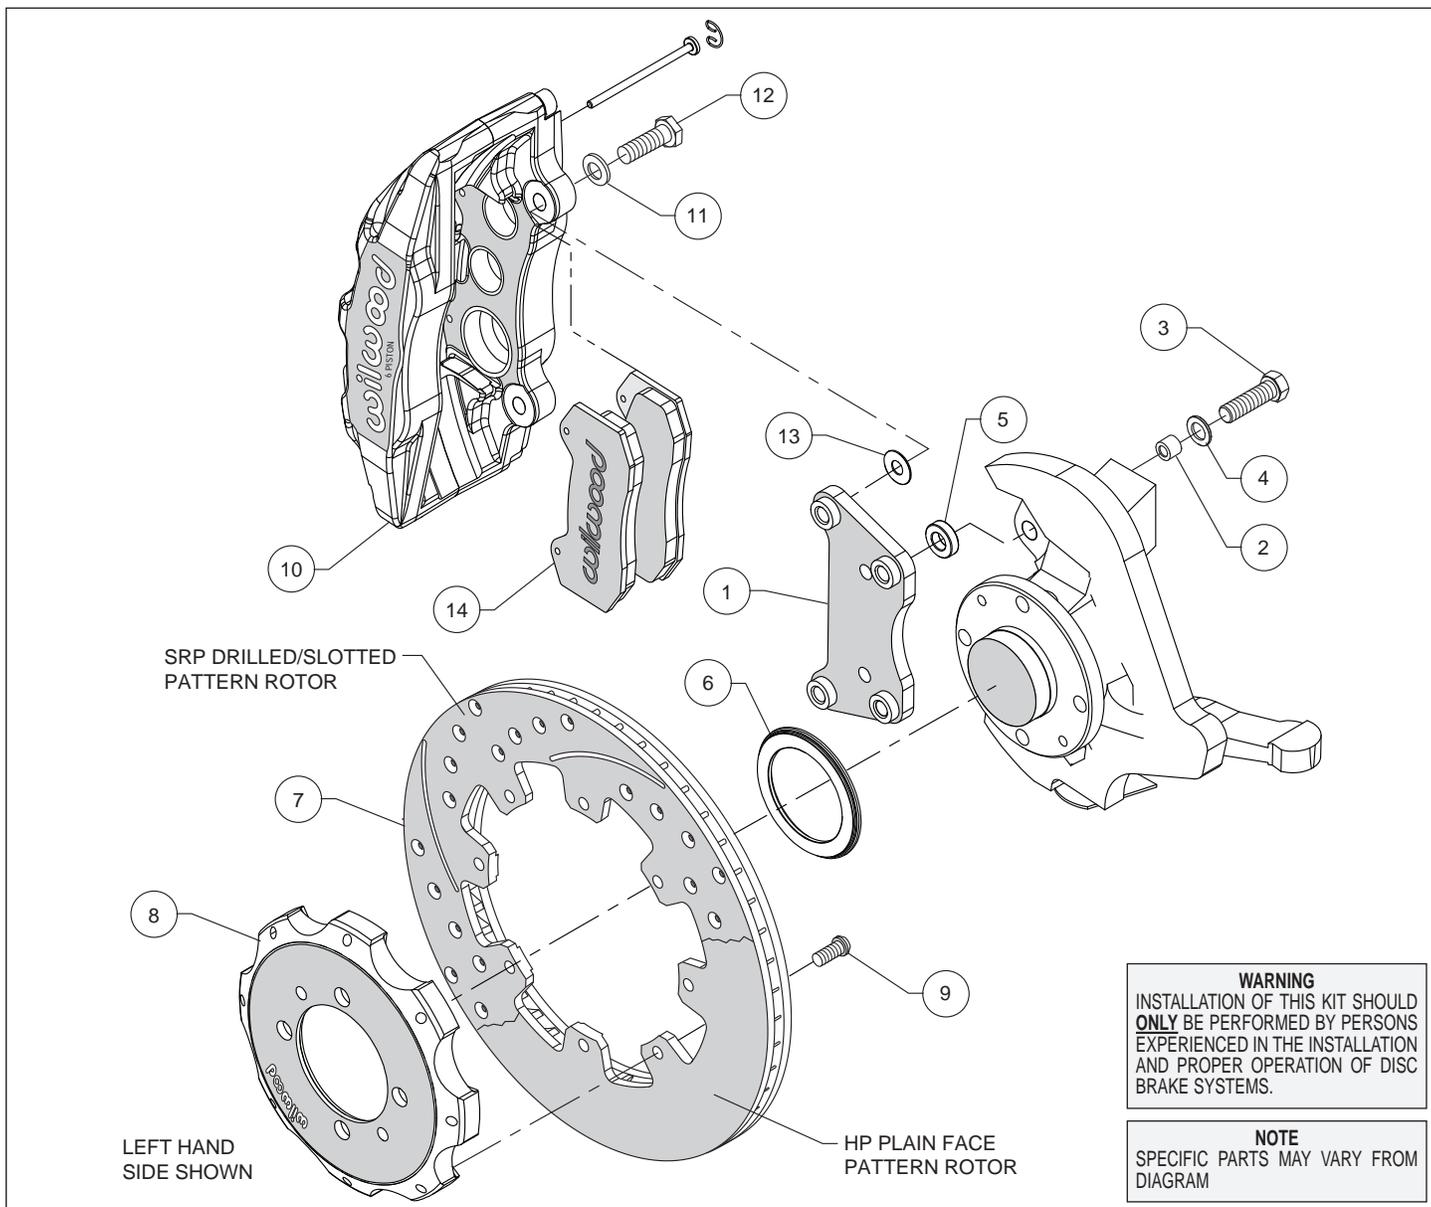
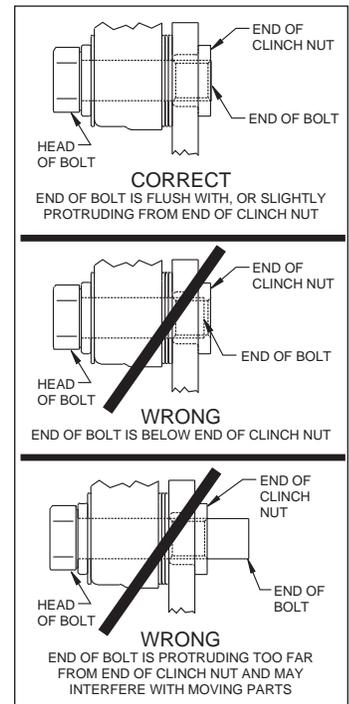

Figure 1. Typical Installation Configuration
Figure 3. Clinch Nut Engagement Diagram
Assembly Instructions (numbers in parenthesis refer to the parts list and Figure 1 on the preceding pages): **CAUTION:** All mounting bolts must fully engage clinch nuts. Be sure to check that all bolts are either flush or protruding through flanged side of clinch nut after shimming, Figure 3.
- Orient the caliper mount bracket (1) as shown in Figure 1 and Photo 1, and install using bolts (3), washers (4), and spacers (5). Insert one sleeve (2) into each of the holes in the spindle “ears” where the Original Equipment Manufacturer (OEM) caliper bracket was removed. Place the spacer between the OEM mounting ears and the bracket, Figure 1. Ensure that the flanged heads of the clinch nuts in the bracket are facing outboard, Photo 1. Temporarily tighten the mounting bolts.
- Orient the rotor (7) and the hat (8) as shown in Figure 1 and Photo 2. Attach rotor to hat using bolts (9). Using an alternating sequence, apply red *Loctite*® 271 to the threads, and torque to 25 ft-lb.
- Slide the rotor registration adapter (6) onto the axle register on the axle hub with the smaller O.D. facing toward the rotor/hat (7/8), Photo 3. Align the two locating holes in the hat to the hub and slide the hat/rotor assembly onto the hub, Photo 4. **NOTE:** The hat must fit flush against the hub flange or excessive rotor run out may result. Install the two stock hat locator bolts and torque to OEM specifications.
NOTE: Please reference the caution statement at the beginning of the assembly instructions. This kit contains distinct right and left hand calipers that must be mounted in a specific direction, as described below. Mount the caliper (10) onto the caliper mounting bracket (1) using bolts (12) and washers (11), as shown in Figure 1. Initially place one .035" thick shims (13) on each bolt between the caliper and the bracket, Photo 5. Ensure that the caliper is mounted so the largest pistons are at the rotor exit end of the caliper, in relation to the direction of rotor rotation. Temporarily tighten the mounting bolts and view the rotor (7) through the top opening of the caliper. The rotor should be centered in the caliper, Photo 6. If not, adjust by adding or subtracting shims between the bracket and the caliper. Always use the same amount of shims on each of the two mounting bolts. **NOTE:** The end of each bolt must be flush with or slightly protruding from the head of the clinch nut, as shown in Figure 3. If necessary place spare shims between washer (11) and caliper mounting ear to achieve the proper clinch nut engagement. Once the caliper alignment and clinch nut engagement are correct, remove the mounting bolts and caliper.
- Remove the two pad retaining pins from the caliper (10) by carefully popping out the pin retaining clips and sliding out the pins. Insert the brake pads (14) into the caliper from the bottom, Figure 1 and Photo 7, with the friction material facing the rotor. Secure the brake pads in place with the pad retaining pins and